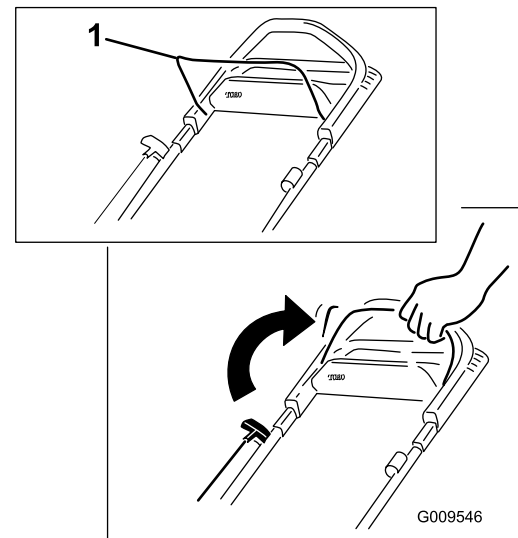

Figure 19
1. Hold the blade-control bar against the handle (Figure 19).